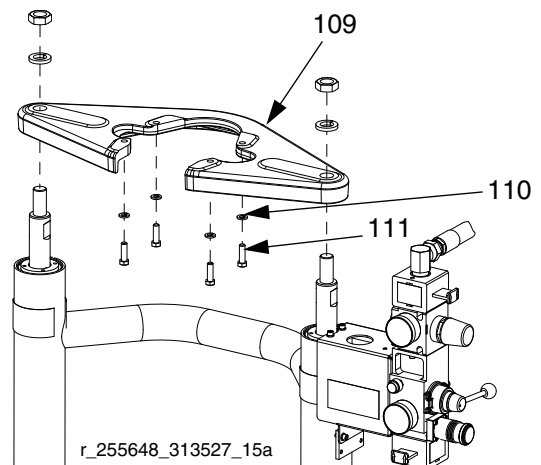

**FIG. 25: NXT 200-1800 with 55 Gallon Platen**
- b. For *NXT 200-1800 with 55 gallon platen (D200 3 in. and D200s 6.5 in. supply units)*: Remove screws (111) and washers (110) securing motor to mounting plate. See FIG. 25.
2. For *NXT200-1800*: Attach motor to mounting bracket with screws (111) and washers (110). See FIG. 25 on page 27.
- b. Connect air hose to motor. If using a remote DataTrak, connect electrical connections to the air motor. See FIG. 25 on page 27.
3. Connect air hose to motor. If using a remote Data-Trak, connect electrical connections to the air motor. See FIG. 25 on page 27.